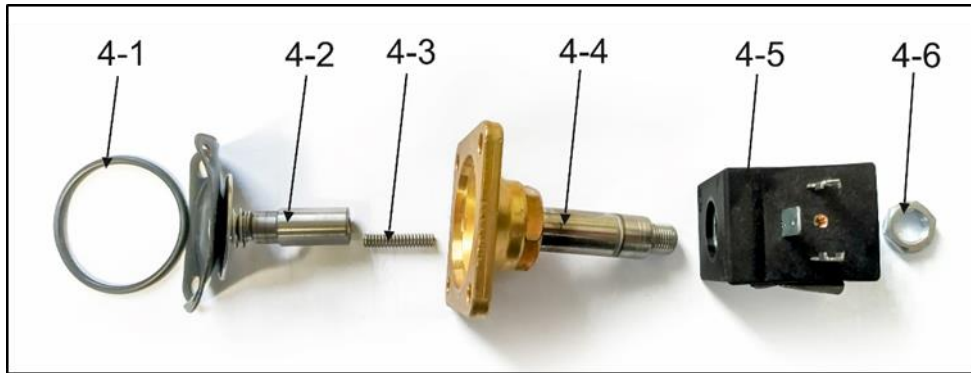

Fig. 37: Solenoid valve assembly
- Unscrew the 1 screw from the valve connector (1).
- Disconnect the valve connector (1).
- Unscrew the 4 screws (2).
- Remove the solenoid valve (3).
- Remove the valve seal (4-1) from the body. (Fig. 37)
- Install the solenoid valve (Fig. 37).
- Install the new solenoid valve using the 4 screws (2) and use a thread locking adhesive on the threads of the screws (such as Loctite 243).